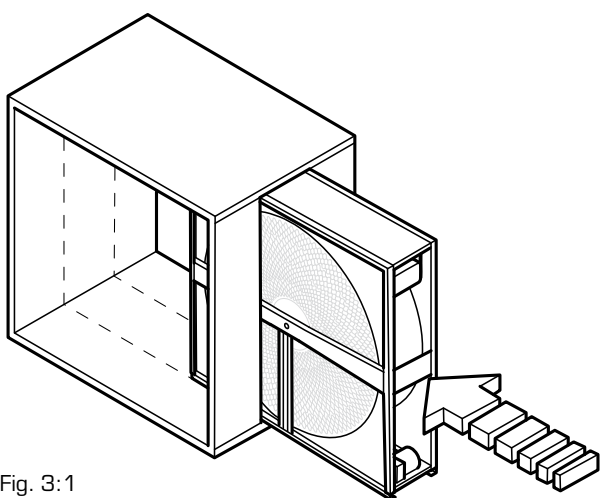

Fig. 3:1
The PUR (C) rotor cassette is designed for insertion into an appropriate Air Handling Unit casing (Fig.3:1), or the cassette can be integrated into the Air Handling Unit already from the beginning.
Make sure that the supporting surface is level and that it can support the weight of the heat exchanger. For particulars of how to connect the supply air, extract air and the airflow directions: See the label on the room side of the heat exchanger. (Fig. 3:2)